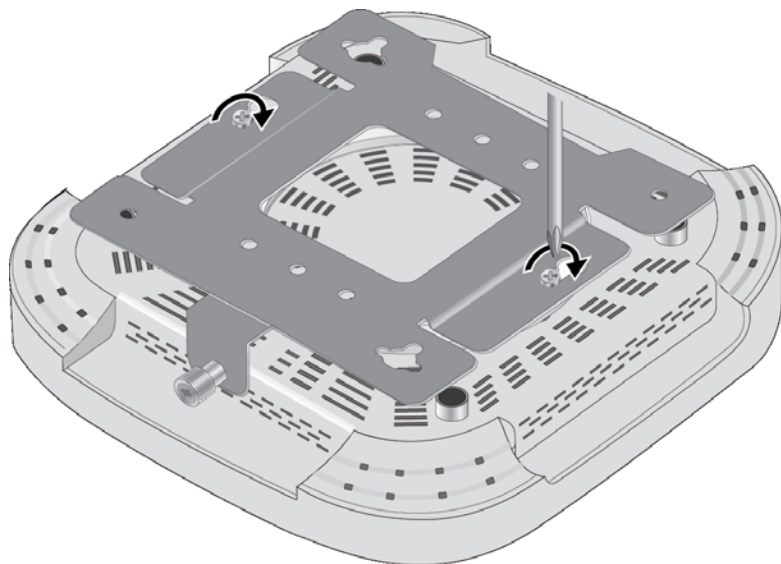

Figure 16. Adjusting the Screws on the Wireless Access Point
4. Tighten the screws so that they touch the mounting bracket plate, and then loosen them by approximately 1/4 turn. Refer to Figure 16.